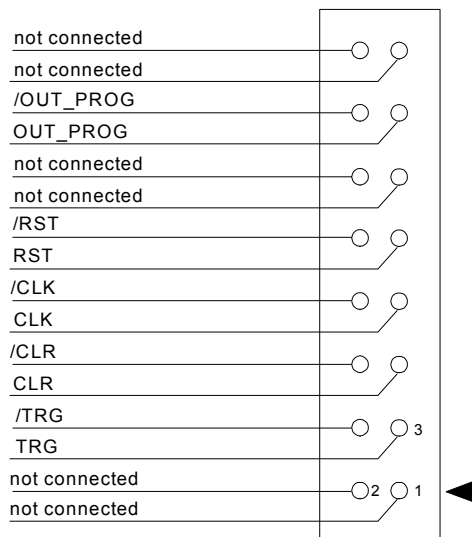

Fig. 3.4: CONTROL connector pin assignment
- Pin assignment is shown in Fig. 3.4.